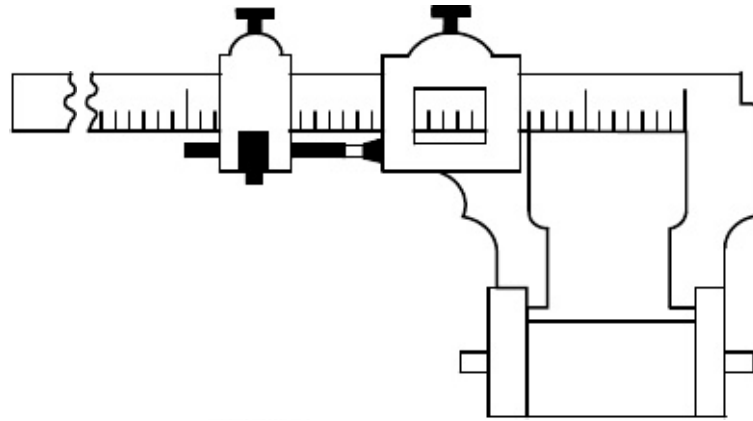

Figure 2.
4.1.15 Measure the Inside Dimension of the Gage Block selected in step 4.1.14. The TI must indicate the Gage Block size within the stated accuracy listed per Table 1 directive for the TI being calibrated. Refer to Figure 2.